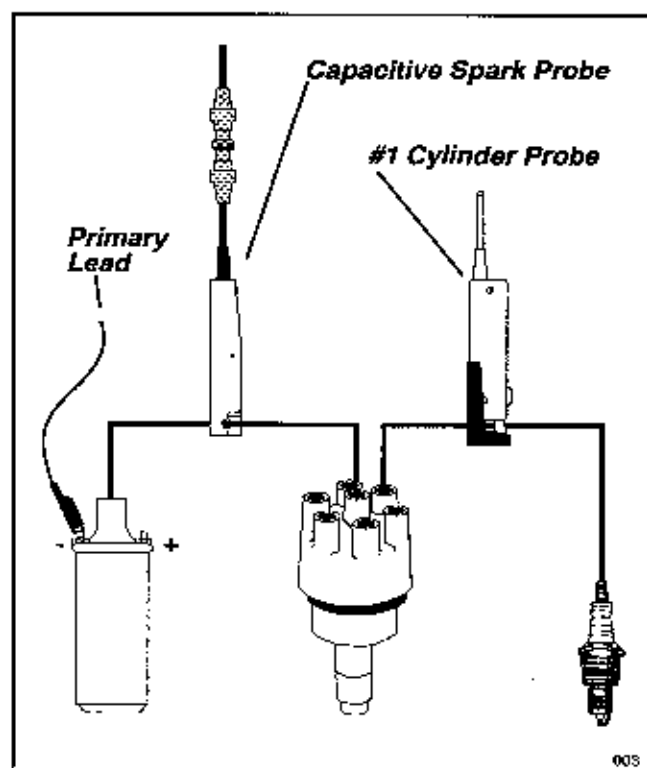
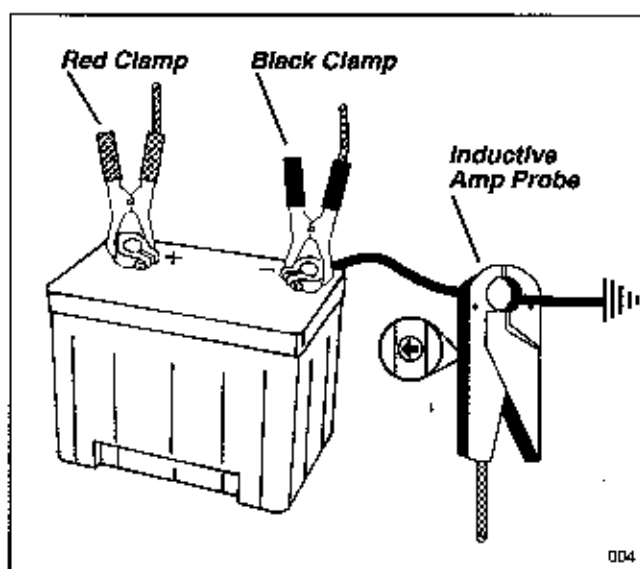

Figure 1-11
Figure 1-12
- Yellow Capacitive Spark Probe (see Figure 1-11) around high tension lead from coil to distributor. Must be completely closed; not touching plug wires, metal parts, vacuum hoses or water. Supplies high voltage information. (Not used in DIS testing.)
- Green #1 Cylinder Probe (see Figure 1-11) around #1 spark plug wire. Supplies cylinder #1 firing information.
- Power Clamps (see Figure 1-12), positive and negative, directly onto the battery posts. Primary Lead to negative terminal on ignition coil (see Figure 1-11). Use the alligator clip provided. The clamps provide Engine Analyzer Module power and system voltage readings.
- Gray Inductive Amp Probe (see Figure 1-12) around the positive or negative battery cable. Supplies current information. Clamp must be around all wires to terminal.